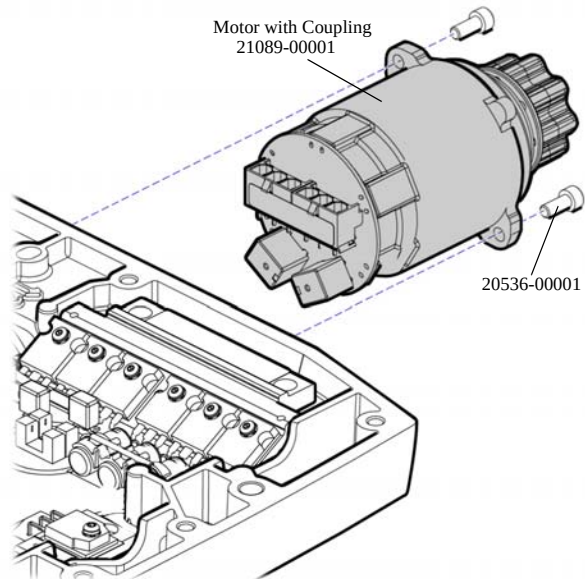

Figure 13-4: Install Motor
5. Thread (2) SHCS, M5 x 0.8 x 12, 6-lobe screws (20536-00001) through motor mounting tabs into chassis. See Figure 13-4.